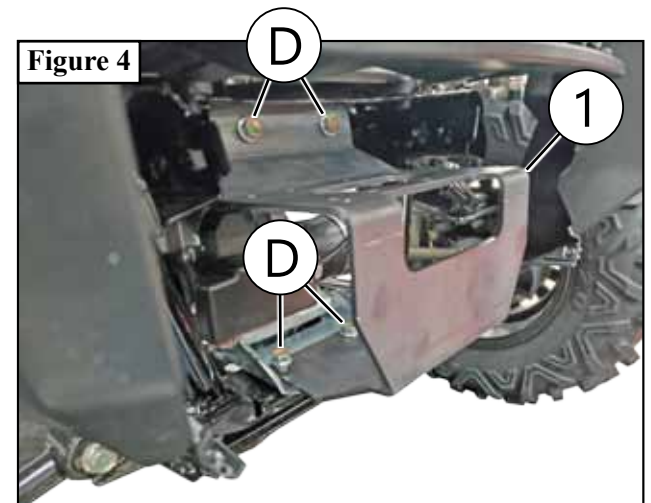

Figure 4
3. Set winch mount (1) in place and secure to the differential brackets using OEM bolts (D) as shown in **Figure 4**.